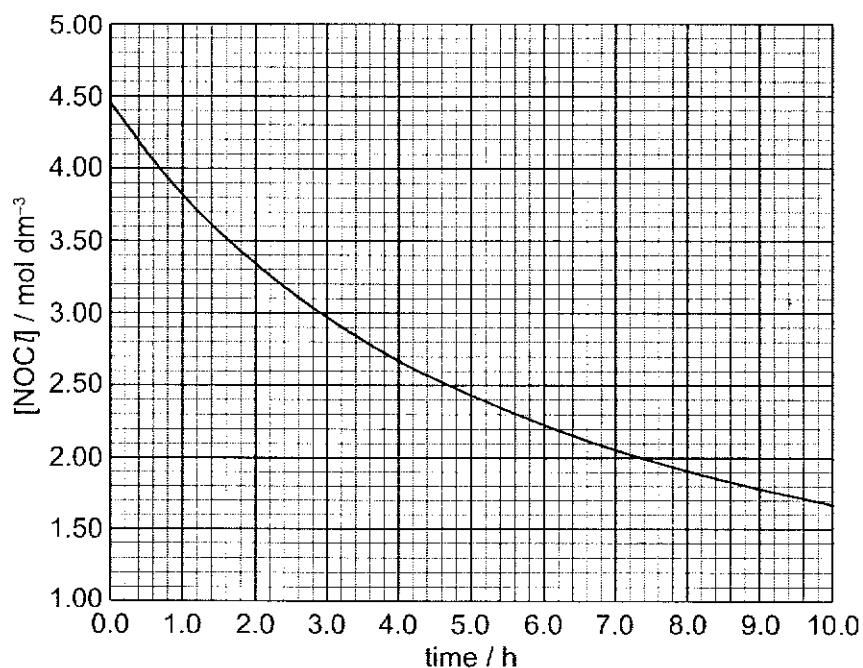

Fig. 1.1
- (c) The change in the concentration of NOCl was monitored as the decomposition reaction occurred over time. The data obtained is shown in Fig. 1.1.
- (i) Using Fig. 1.1, show that the reaction is second order with respect to NOCl .